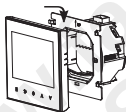

Fig. 4
4. Attach the thermostat body to the installation plate (Fig. 4).